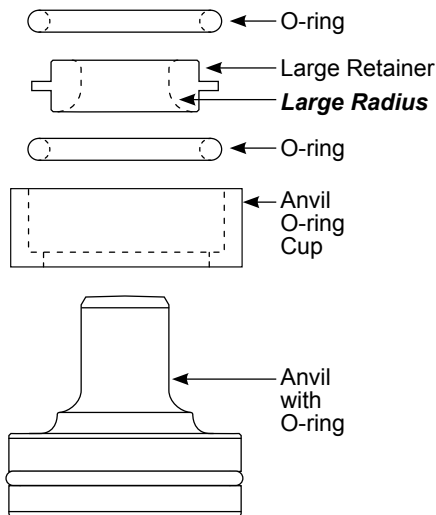

Fig. 16 - Insert O-ring into Anvil O-ring cup, then insert Large Retainer with large radius at bottom towards the anvil, then insert other O-ring.
Lubricate and assemble the large retainer and the two (2) o-ring seals in the order shown in **Fig. 16** and assemble into the anvil o-ring cup ensuring the large radius on the large retainer is positioned toward the anvil.